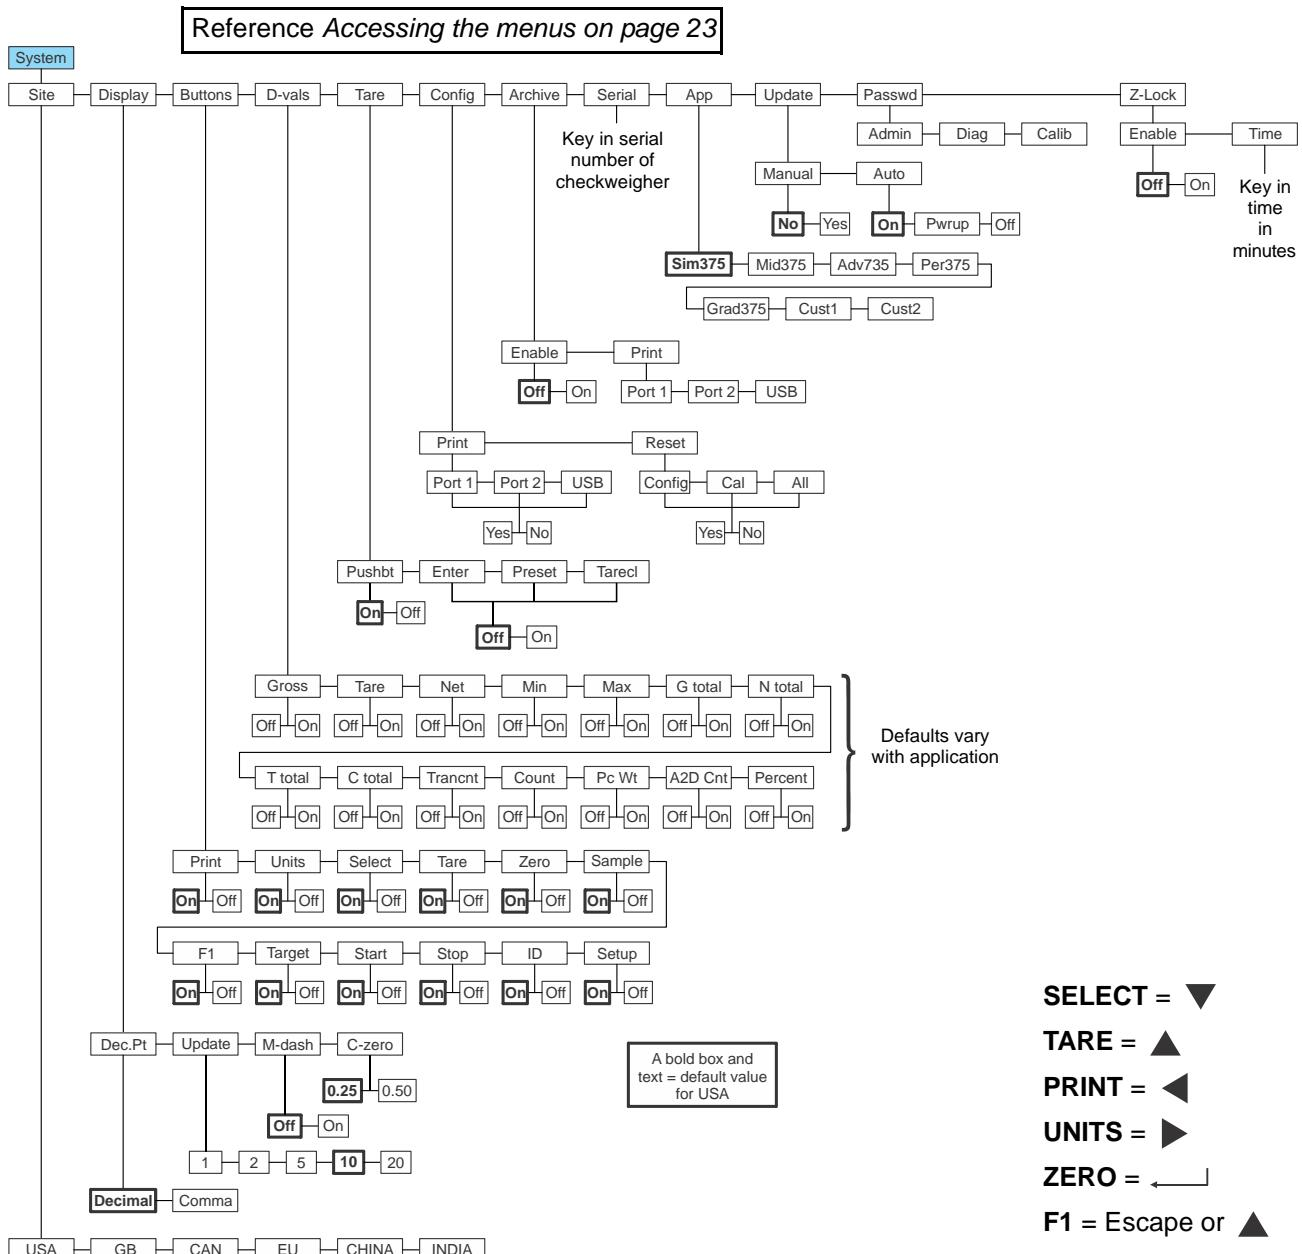

Figure 6.5 System menu
Use the System menu to configure system parameters such as loading defaults for the country of operation, setting available display modes and tare functions, selection of the scale application mode, and several other functions that will be described. Refer to Figure 6.5 as you setup the items of the System menu.
6. Repeat steps 3 through 5 for all the keys you want to change. Refer to the list of buttons in the menu found in Figure 6.5 on page 65. When finished press **TARE** ...